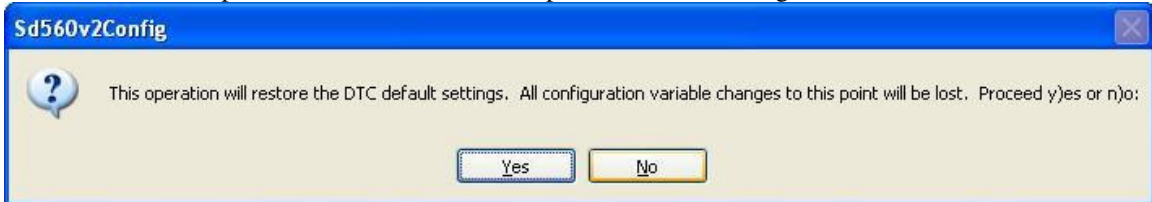
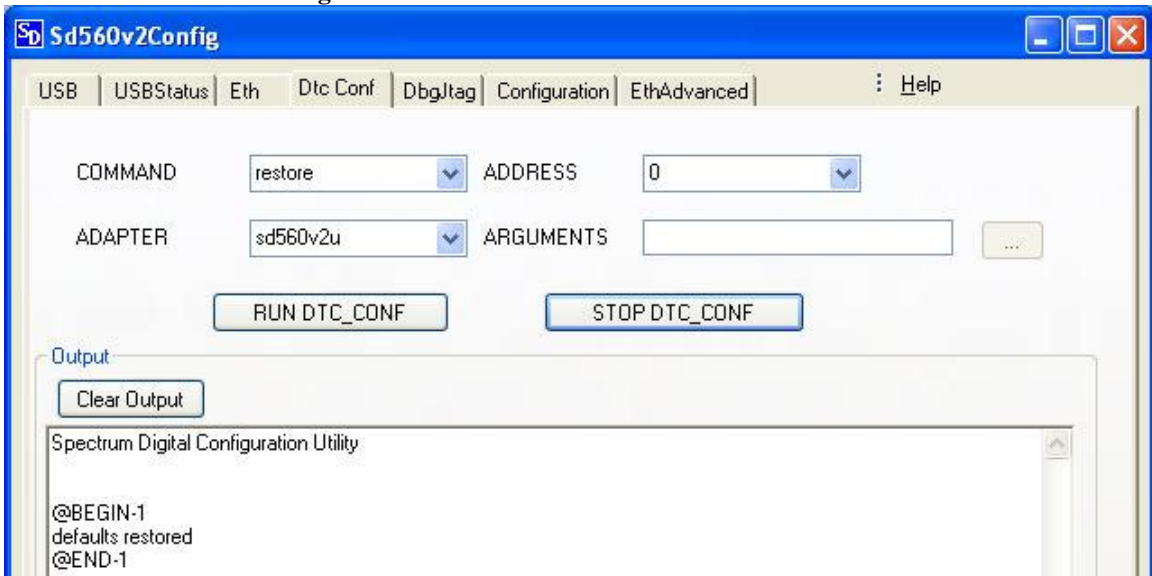

FIGURE 16: Sd560v2Config – DtcConf tab Restore Command
FIGURE 17: Sd560v2Config – DtcConf Tab Restore Command
4. Click on RUN DTC_CONF. A pop-up window as displayed in figure 16 below appears. Click on yes to restore the variables. A “defaults restored” message will be printed to the output window on command completion as shown in figure 17 below.